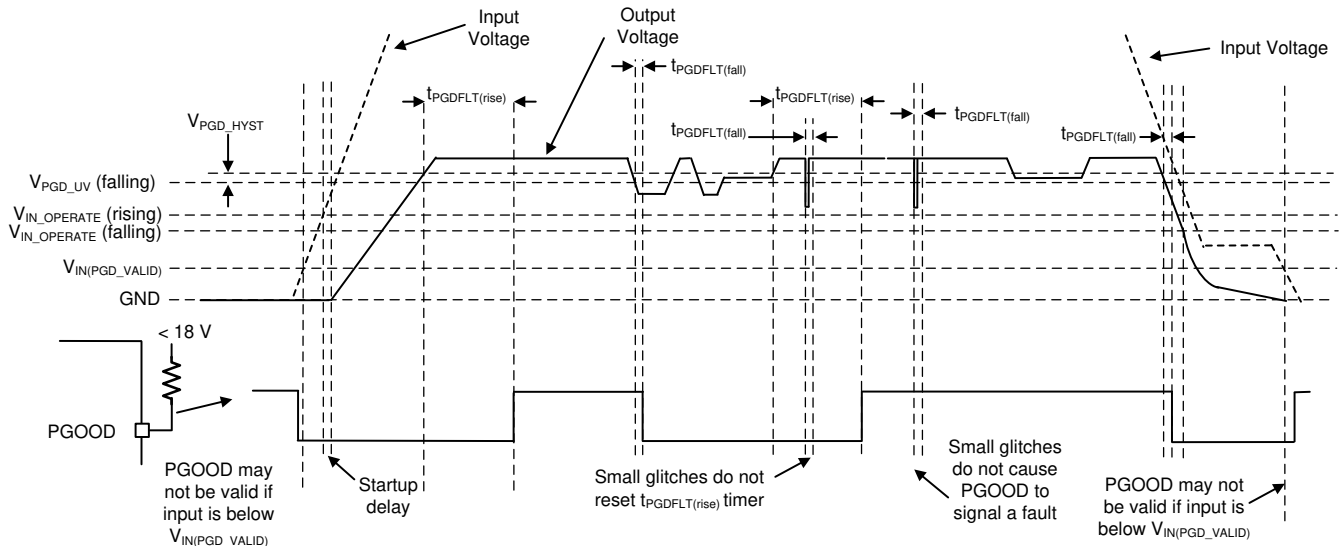

Figure 7-13. PGOOD Timing Diagram (Excludes OV Events)
The PGOOD function is implemented to replace a discrete reset device, reducing BOM count and cost. The PGOOD voltage goes low when the feedback (FB) voltage is outside of the specified PGOOD thresholds (see Figure 6-8). This can occur during current limit and thermal shutdown, as well as when disabled and during normal start-up. A glitch filter prevents false flag operation for short excursions of the output voltage, such as during line and load transients. Output voltage excursions that are shorter than $t_{PGDFLT(fall)}$ do not trip the PGOOD flag. Refer to Figure 7-13 to best understand PGOOD operation.